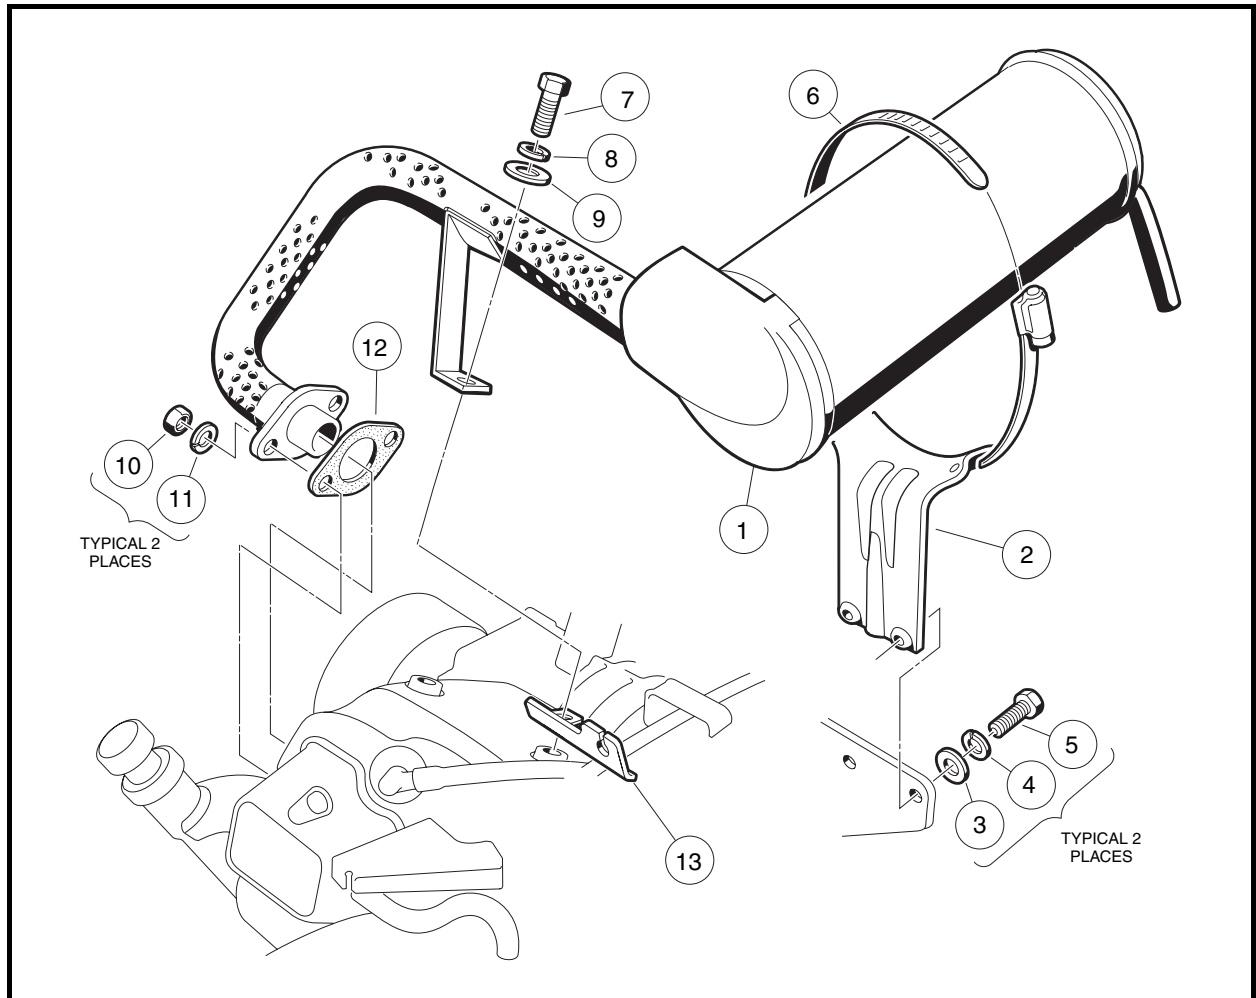

Figure 15-1 Exhaust System
3. Remove the hex nuts (10) and lock washers (11) (**Figure 15-1, Page 15-2**).
4. Remove the hex-head cap screw (7), lock washer (8), and flat washer (9).
5. Remove the muffler clamp (6) from the muffler bracket (2).
6. Remove the muffler (1) and muffler clamp (6) from the vehicle.
NOTE: Any time the muffler is removed from the vehicle, install a new muffler clamp (6) (CCI P/N 1017689) and muffler gasket (12) (**Figure 15-1, Page 15-2**).
1. Place a new gasket (12) on the exhaust port mounting studs on engine.
2. Use the muffler clamp (6) to attach the muffler (1) to the muffler bracket (2) as shown (**Figure 15-1, Page 15-2**). Leave the muffler clamp loose enough to allow the muffler to move as the mounting hardware is tightened. If installing a new muffler, use the old muffler as a positioning guide for the clamp and bracket.
3. Install the hex nuts (10) and lock washers (11). Tighten the nuts fingertight.
4. Install the hex-head cap screw (7), lock washer (8), and flat washer (9). Tighten the cap screw fingertight.
5. Tighten the hex nuts (10) to 11 ft-lb (14.9 N·m).
6. Tighten the hex cap screw (7) to 14 ft-lb (18.9 N·m).
7. Tighten the muffler clamp (6) to 40 in-lb (4.5 N·m).